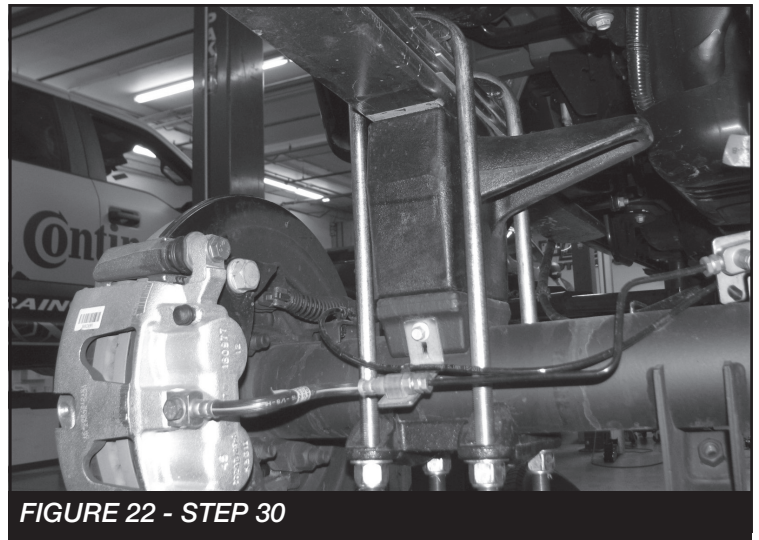

FIGURE 22 - STEP 30
30. Locate and install the rear lift blocks FTBK64D & P. The factory block will need to be removed. The short end of the blocks should face to the front of the vehicle. Using the supplied u-bolts, nuts and washers align axle, lift blocks and springs and torque to U-Bolts to 170 ft-lbs. **SEE FIGURE 22**